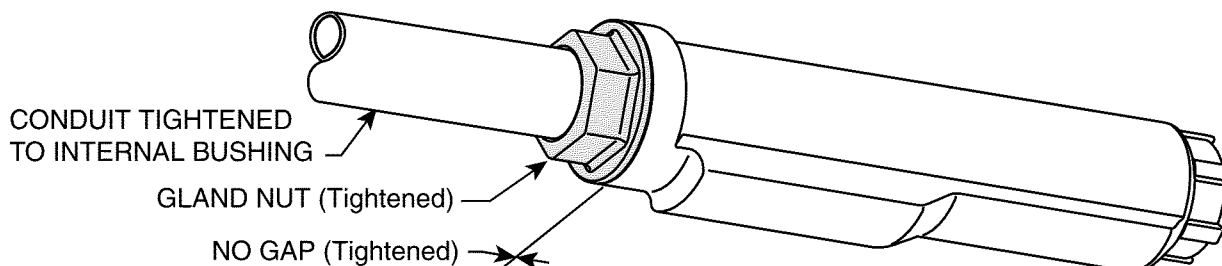

FIGURE 3
- 2) Tighten gland nut using a pipe wrench, as shown in Figure 3. This will compress the Teflon packing around the conduit, providing a rain tight seal (see Torque Chart for correct torque).